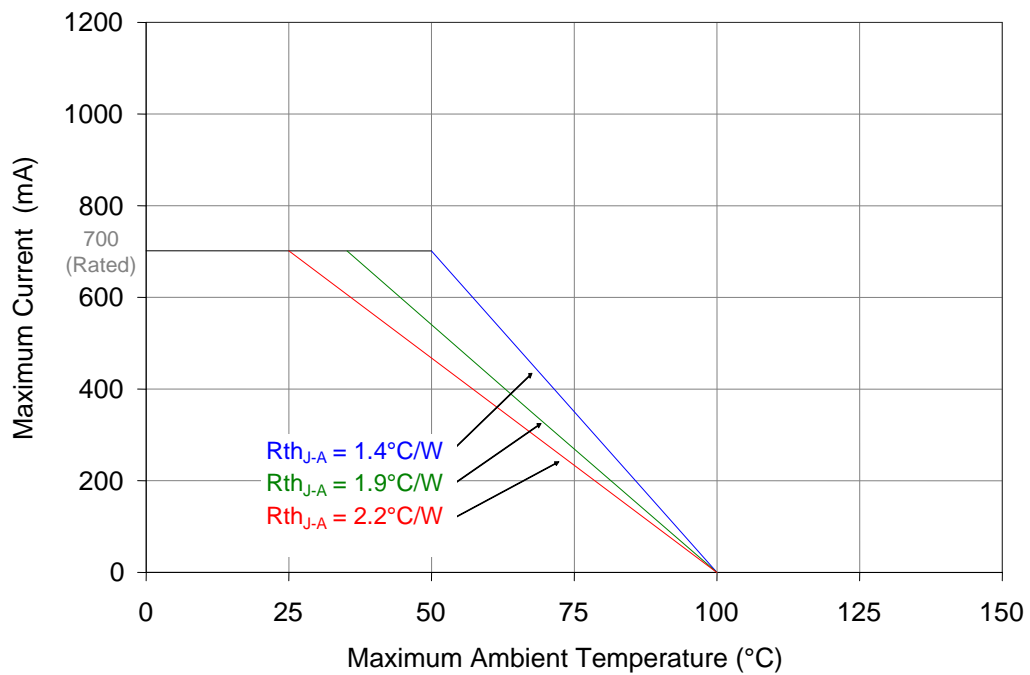

Figure 10: Maximum forward current vs. ambient temperature based on TJ(MAX) = 100°C.
- Maximum DC forward current (per die) is determined by the overall thermal resistance and ambient temperature. Follow the curves in Figure 10 for current derating.
Notes for Figure 10: